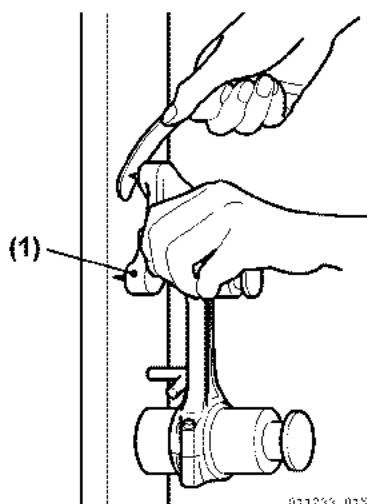

Figure 5-96
**Figure 5-96** shows twist measurement using a connecting rod alignment tool.